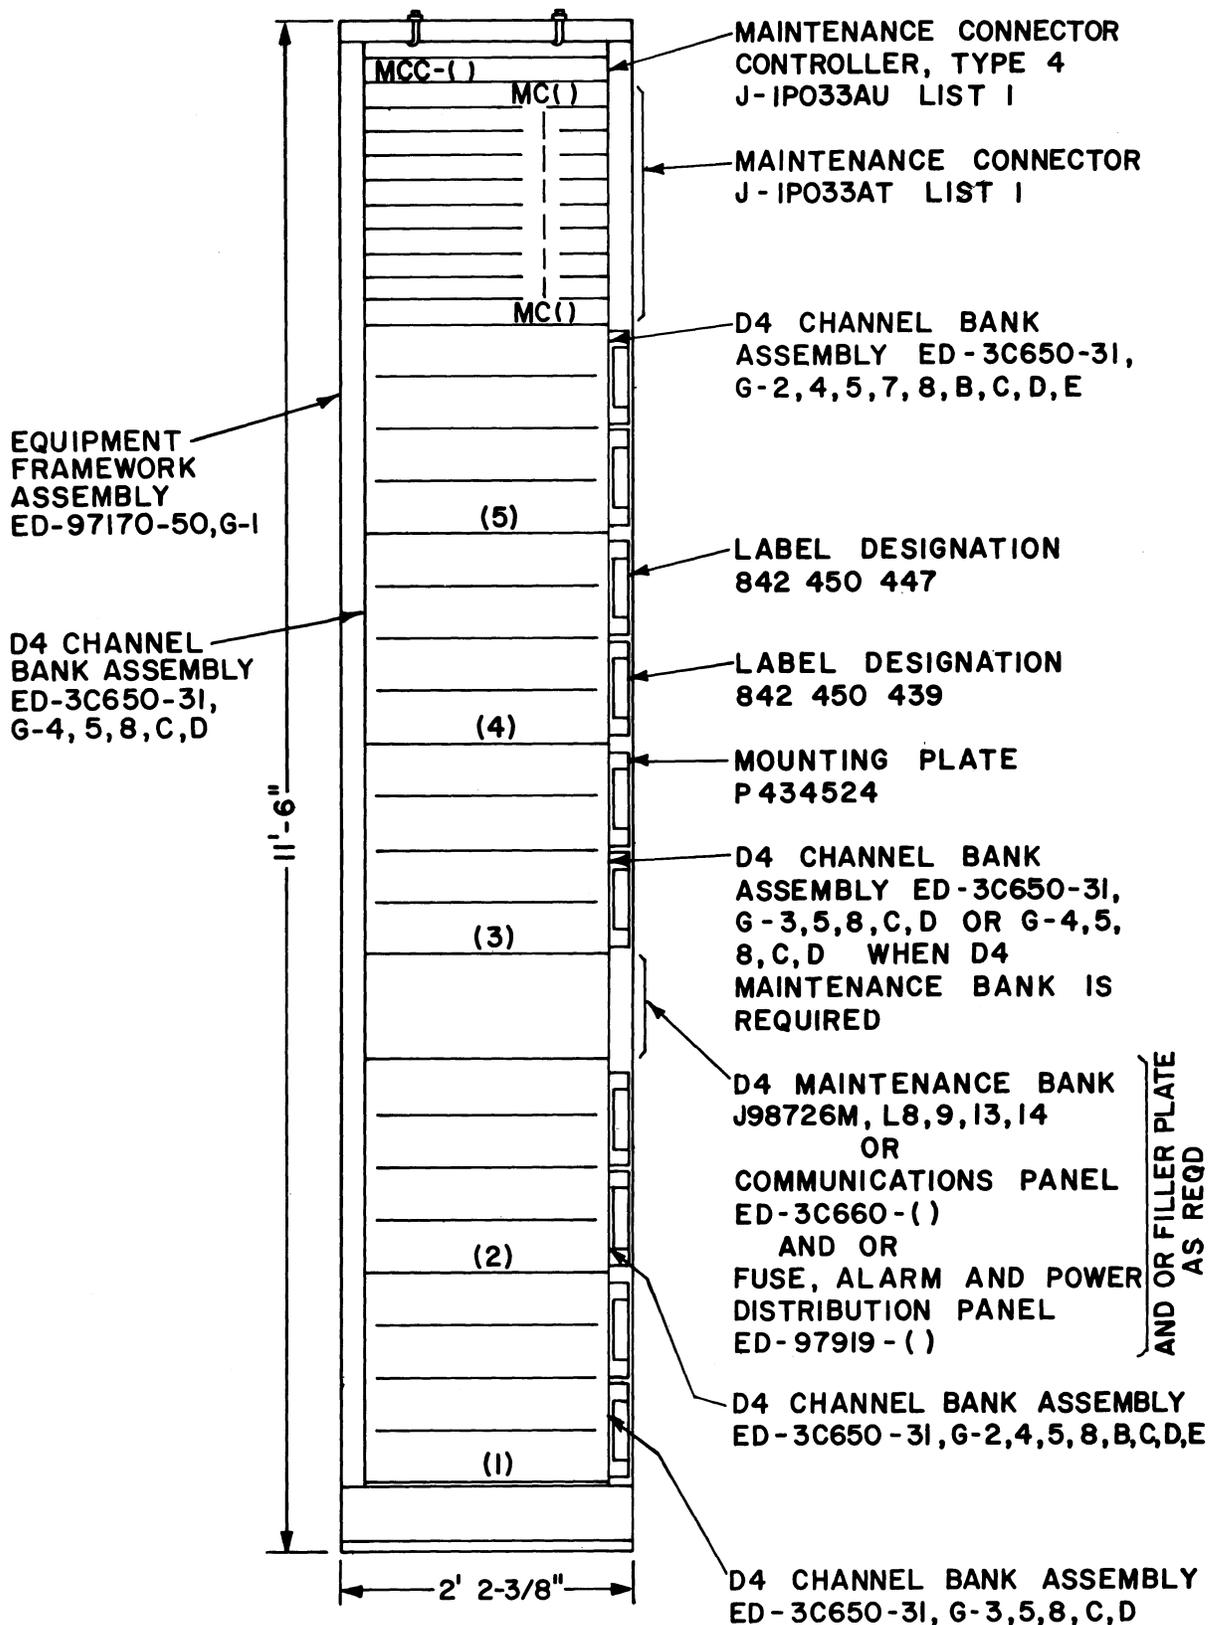

Fig 5—J98733D
**1.07** The J98733D frame shown in Fig 5 is an 11-foot 6-inch cable-duct type framework having provisions for five D4 channel banks, one maintenance connector controller (MCC), and ten maintenance connectors (MCs). It will accommodate front-mounted equipment for 240 channels.